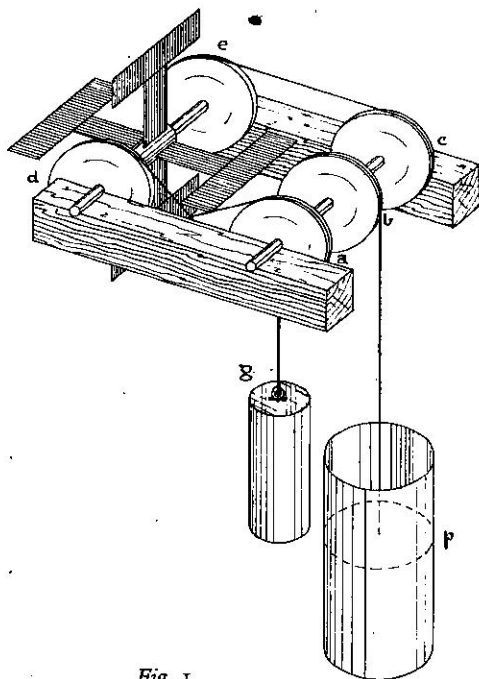
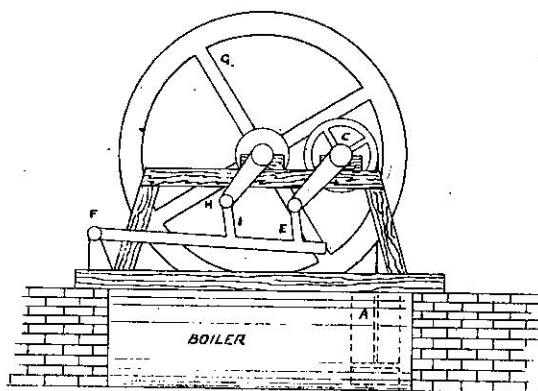

Fig. 1
Fig. 3
Although the crank was known to the ancients and figured in the machines of the Egyptians, Greeks and Romans, I believe the first recorded invention for the purpose of converting the reciprocating motion of a piston in a cylinder to which steam was applied into rotary motion, to be ascribed to Johnathan Hulls. A description of the mechanism was set forth in a pamphlet dated 1737 and designed for the purpose of rotating a paddle or stern wheel to propel a ship by the power of steam. The engine is represented in Fig. 1.
Edmund Cartwright produced several mechanisms of which, perhaps, his portable "atmospheric" engine of 1801 is the most interesting example. Here again, it is essentially the crank that is used as will be seen in the illustration of his engine given in Fig. 3. The following is an extract from a contemporary description:—
*Note.*—In Fig. 1, it would appear from the description that motion is imparted to the paddle-wheel in the reverse direction to that which would be convenient, and in Fig. 3, it would appear to be necessary for the link rods *i* and *e* to be pinned to the main lever. The descriptions and diagrams are, however, reproduced as accurately as possible from the original and the writer felt it to be undesirable that he should add any embellishments of his own.
A far simpler idea, in my opinion, would be to make the basic gauge first and then, in circumstances where greater accuracy is needed, to fit to the bottom of the case the small bracket and lever shown in Fig. 3, the measurements being made by point "P," the lever being twice as long one end as the other and, therefore, making each thou. equal to half a thou. The bracket holding the extra lever can be fitted to the back of the case, pinned into place and secured with two screws so that it can be removed. The pins will locate it when replaced; in its place can be fitted a longer bracket with a longer arm if needed for inside measurements. The screws and pins can also be used for holding it to a base for use as a comparator, and they can be screwed right through the case into the backplate so that the brackets become an integral part of the instrument.